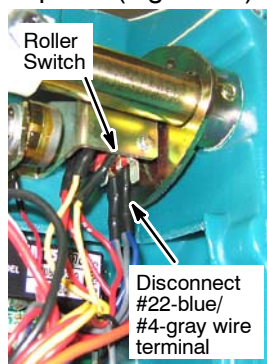
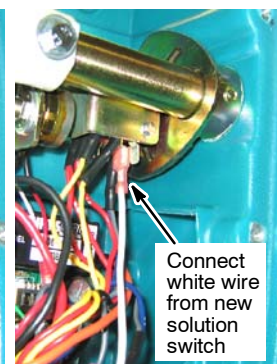

Fig. 3a
Fig. 3b
3. To wire the new solution switch, disconnect wire terminal #22-blue/#4-gray from the center roller switch (Figure 3a) and connect the white wire from the new solution switch in its place (Figure 3b).